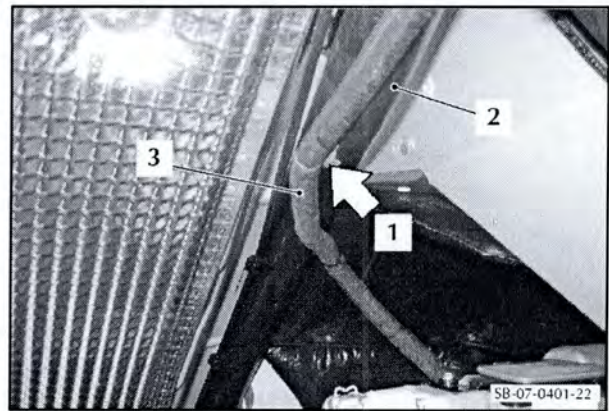

Figure 22
35. Use the transmission lift to lower the transaxle sufficiently to get access to the clip (1) that attaches the electrical harness (2) to the subframe (3). Release the clip (1) from the subframe (2) (refer to Figure 22).